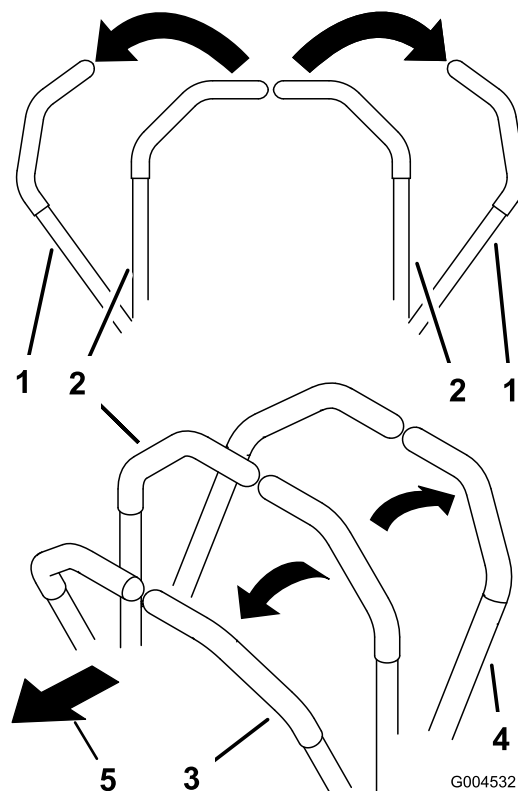

Figure 17
3. To go forward, slowly push the motion control levers forward (Figure 17).
To go straight, apply equal pressure to both motion control levers (Figure 17).
To turn, move the motion control lever toward neutral in the direction you want to turn (Figure 17).
2. To go backward, slowly pull the motion control levers rearward (Figure 17).
To turn, release pressure on the motion control lever toward the direction you want to turn (Figure 17).